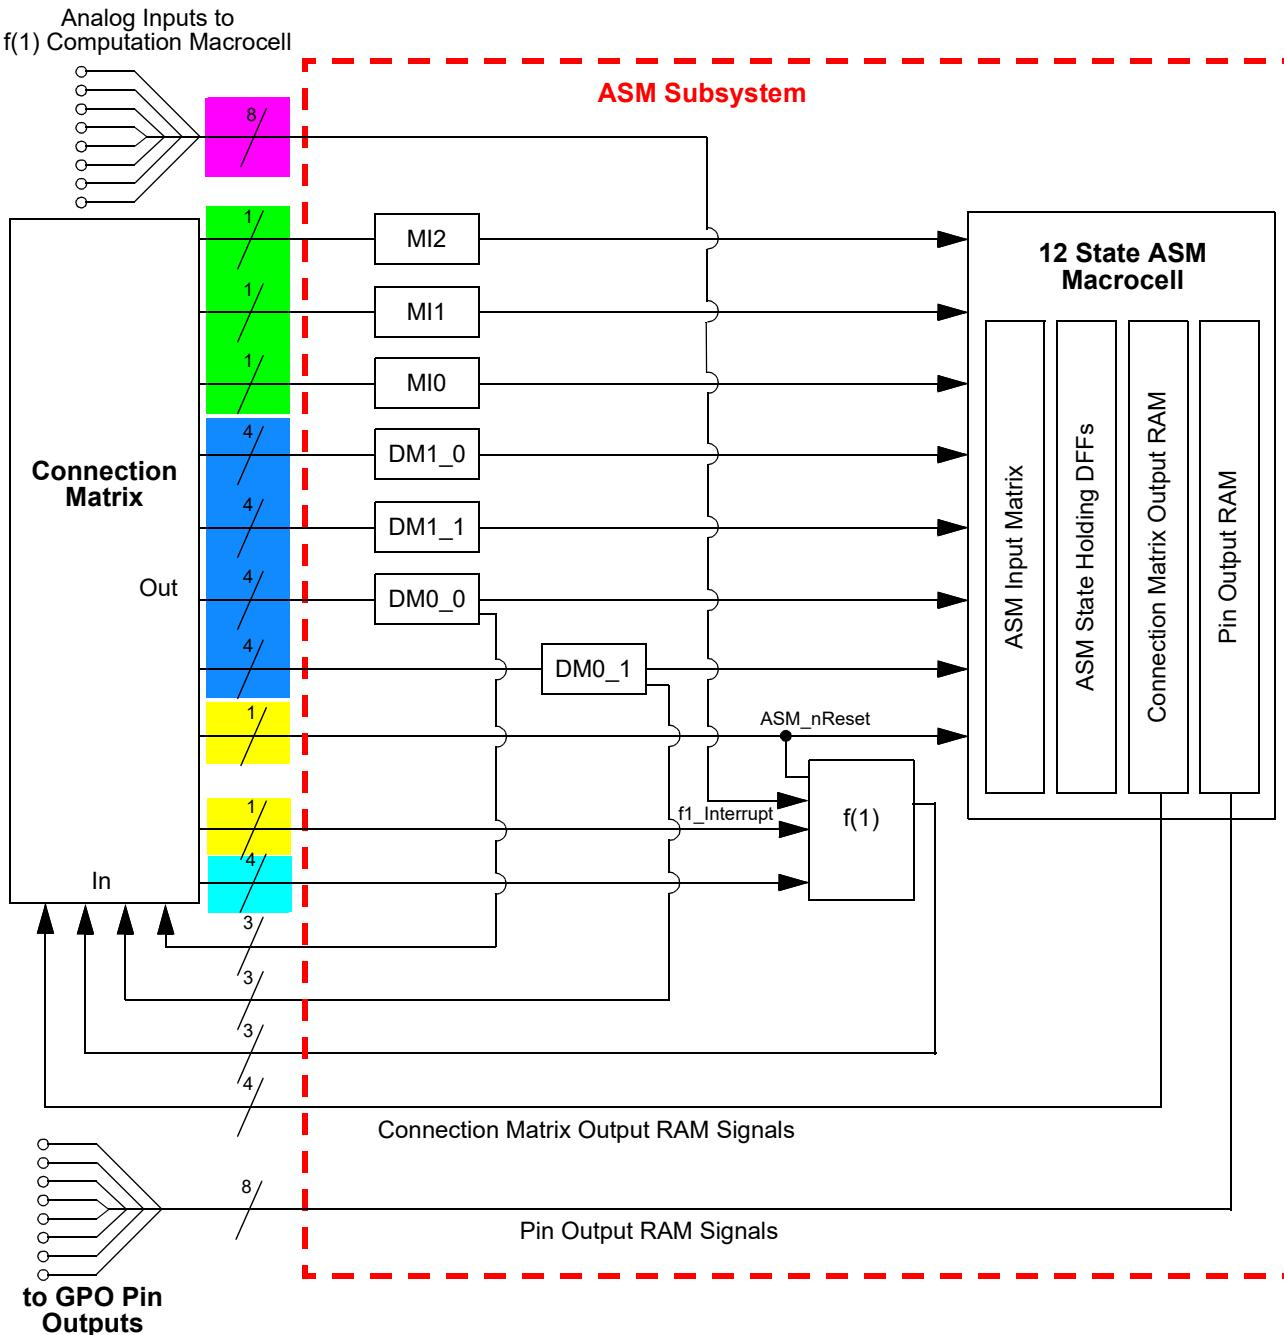
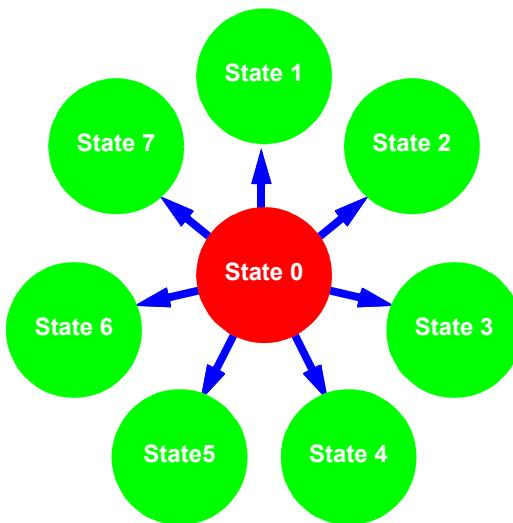
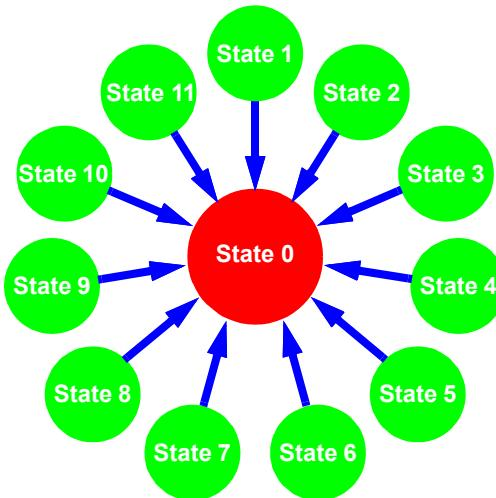

Figure 90: ASM Subsystem Input Signals
Figure 91: Maximum 7 State Transitions out of a Given State
Figure 92: Maximum 11 State Transitions into Given State
The ASM Subsystem has a total of 25 digital input signal lines, as shown in Figure 90, which all come from the Connection Matrix outputs. Of these 25 input signals, 3 are user selectable inputs going directly from the Connection Matrix to the three Matrix Interface (MI) macrocells. There are a total of 16 input signals that go to the DMx_x macrocell, four per macrocell. There is 1 ASM_nReset input that is for driving a state transition in both the ASM macrocell and the $f(1)$ Computation Macrocell to an Initial/Reset state. There are 4 digital input signals coming from the Connection Matrix to the $f(1)$ Computation Macrocell. There is also 1 dedicated Interrupt input to the $f(1)$ Computation Macrocell that will halt any active operations and transfer control back to the ASM macrocell. Each of the 25 input signals are level sensitive.
There are a total of 16 digital input signals to the ASM Subsystem which are inputs directly to the DM macrocells. These 16 signals are shown in Figure 90, highlighted in blue. While there are 4 input signals coming from the Connection Matrix and going to each DM_x_x macrocell, there is only 1 output signal from each of these macrocells, which goes directly to the ASM macrocell. There are also 3 signal lines that come directly from the Connection Matrix and go to the three Matrix Interface (MI) macrocells which can drive state transitions. These signals are shown in Figure 90, highlighted in green. This sets an upper bound on the number of transitions that the user can select going *out of* a particular state to be 7, shown in Figure 91. There is no limitation on the number of unique transitions that can be supported going into a particular state, the user can select to have transitions going from a state to all other states, shown in Figure 92. Each of these input signals to the ASM macrocell is level sensitive, and active high. A high level input will trigger a state transition.
There are a total of 8 analog inputs coming from various pins which can be muxed into the positive input for the f(1) Analog Comparator inside the f(1) Computation Macrocell. These 8 signals are shown in Figure 90, highlighted in pink. The f(1) Analog Comparator can be re-programmed for analog input source and negative input reference settings. The user selections for both positive input signal and negative reference are included as part of the information stored in the f(1) Command Register Table. This allows the user to make different analog measurements that are state dependent in their analog sources and reference settings.
The ASM macrocell also has a ASM_nReset input. This input to the ASM macrocell is level sensitive and active low. This signal is shown in Figure 90, highlighted in yellow. An active signal on this input will drive an immediate state transition to the user-defined Initial/Reset state. The user can choose which state within the ASM Editor inside GPAK Designer will be the reset state.
There is also 1 dedicated f1_Interrupt input to the f(1) Computation Macrocell that will halt any active operations and transfer control back to the ASM macrocell. This signal is shown in Figure 90, also highlighted in yellow.